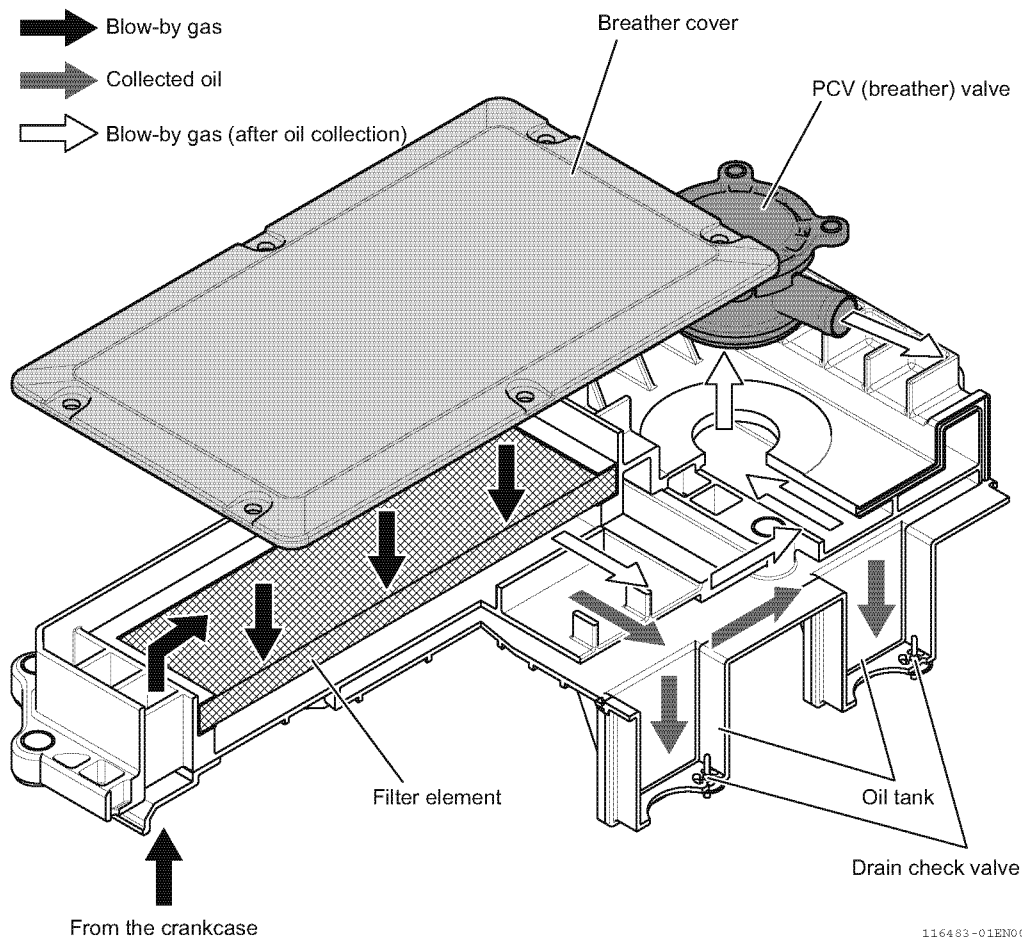

Fig.14-43
- As shown in Fig.14-43, the blow-by gas passes through the blow-by assembly in the bonnet and filter element, and separates the oil mist. After that, the blow-by gas is released to the air through the PCV (breather) valve.